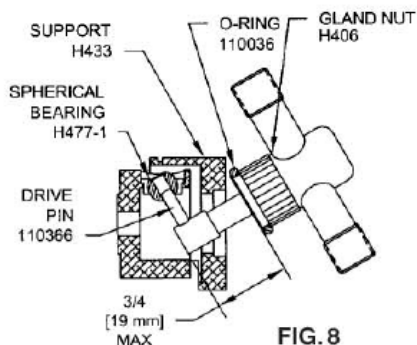
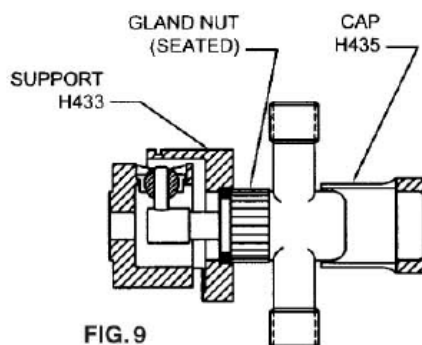

FIG. 8
FIG. 9
20. REMOVING PISTON/CYLINDER GROUP ASSEMBLY. (refer, Fig 8.) remove two 110655-20 screws and while holding cylinder ports in place, slip part H435 off of CYLINDER ASSEMBLY H422. Tilt the assembly
as shown in figure 8. This will permit removal of PISTON DRIVE PIN 110366 from SPHERICAL BEARING H477 without fully withdrawing piston from liner.
22. PISTON/CYLINDER GROUP ASSEMBLY REPLACEMENT. (refer, figs. 8 & 9) Install "O" RING 110036 over GLAND NUT H406. Note in fig. 8 that PISTON DRIVE PIN 110366 must be guided into SPHERICAL BEARING H477-1 while the piston and cylinder remain assembled. This for the purpose of avoiding assembly damage to the seals. When PIN is in bearing, seat GLAND NUT with "O" RING in SUPPORT H433 as shown in fig. 9. **OPERATE PUMP MANUALLY FOR SEVERAL STROKES BEFORE APPLYING POWER.**